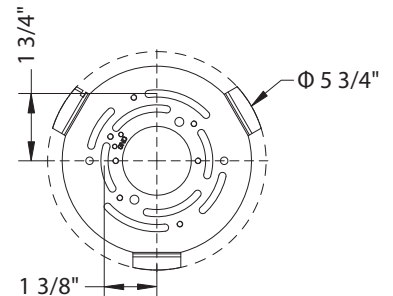

Fig. 2 Wiring
### CONNECTING THE WIRES (Fig. 2)
9. Connect the driver's input wires to the junction box wires as shown in Fig. 2 using wire connectors (A) provided. Ensure wire connectors are secure. Connect the fixture's ground wire to the ground in the junction box; this will be either a green wire or a bare copper wire. After wires are connected, tuck them carefully inside the junction box.